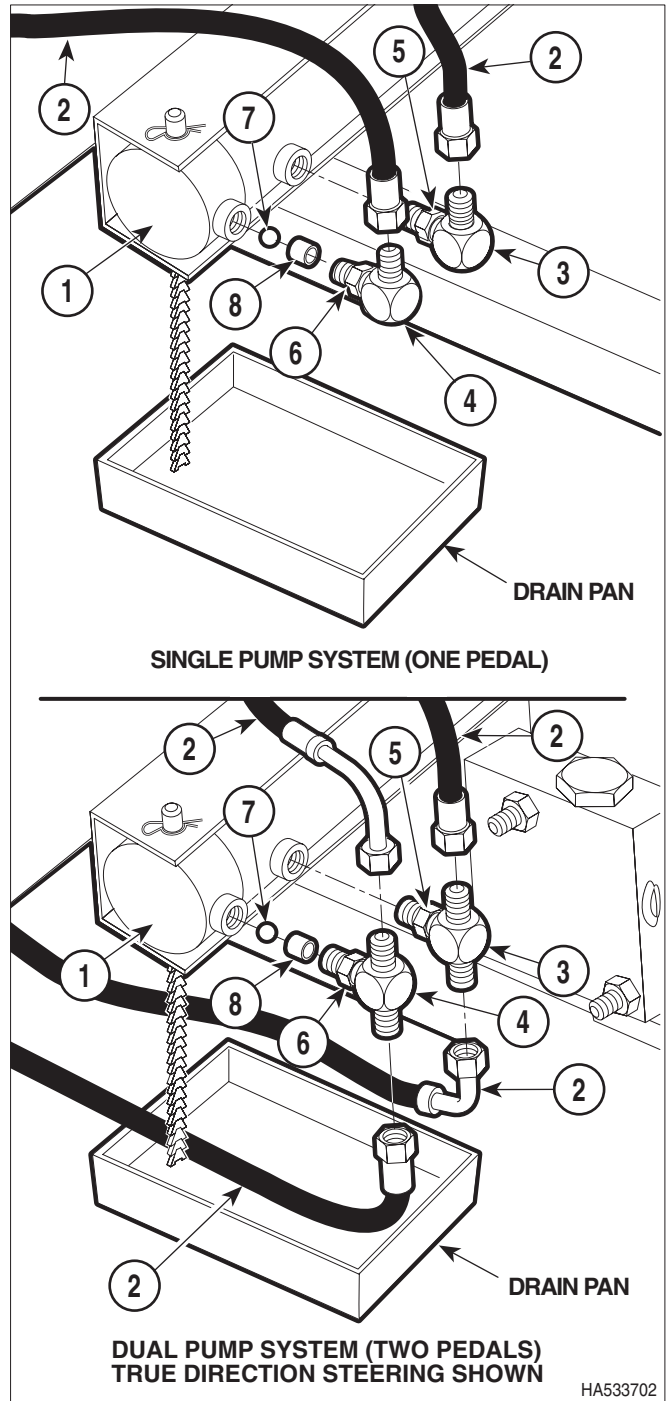

Figure 4-14. Elevation Cylinder Hose and Fittings Removal
Hoses on stretchers with Rite Trac steering (fifth wheel) will be routed slightly different than one without. Note the differences in routing before disconnecting hoses or removing fittings. Figure 4-14 is shows hose routing on a stretcher without Rite Trac steering (fifth wheel).
- (5) Place a drain pan under elevation cylinder (1, Figure 4-14).
- (6) Tag and disconnect hoses (2) from fittings (3 and 4).
- (3) Position rod of elevation cylinder (1) on litter top (2) and secure with clevis pin (4) and rue ring (3).
- (4) Install restrictor seat (8, Figure 4-14) and nylon ball (7) in fitting (4).